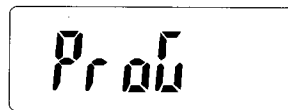

Figure 4-4 .
- 5 The slave radio displays the following message (Figure 4-4) while it is being programmed.